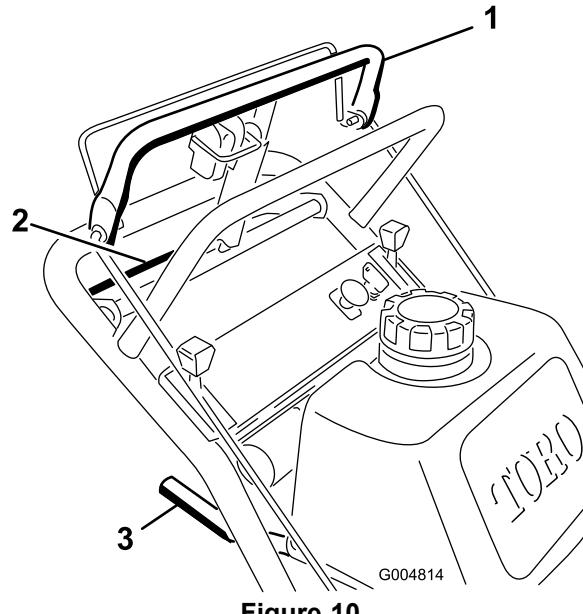
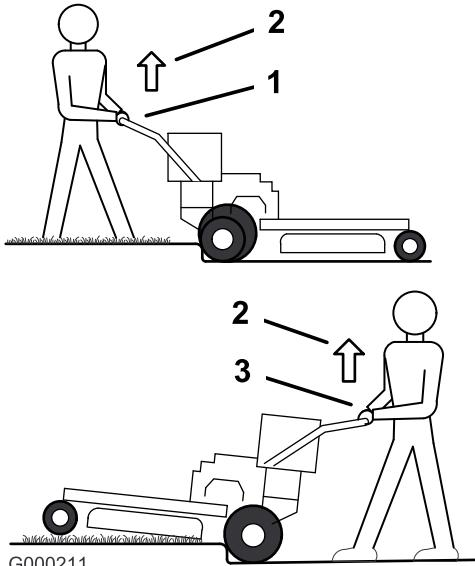

Figure 10
Figure 11
1. To go forward, move the shift lever to a forward gear (Figure 10).
3. Slowly press on the upper control bar to move forward (Figure 10).
To go straight, apply equal pressure to both ends of the upper control bar (Figure 10).
To turn, release pressure on the upper control bar side in the direction you want to turn (Figure 10).
3. Slowly squeeze the lower control bar and lower handle together to move rearward (Figure 10).
3. Drive machine until the castor wheels contact the curb (Figure 11).
4. Lift the front of the machine by pushing down on the lower handle (Figure 11).
- Drive the machine until drive wheels contact the curb (Figure 11).
- Lower the front of the machine (Figure 11).
- At the same time, engage the lower control bar and lift up on the lower handle to drive over the curb (Figure 10 and Figure 11).
- Drive the machine until drive wheels contact curb (Figure 11).
- At the same time engage lower control bar and lift up on the lower handle (Figure 10 and Figure 11).